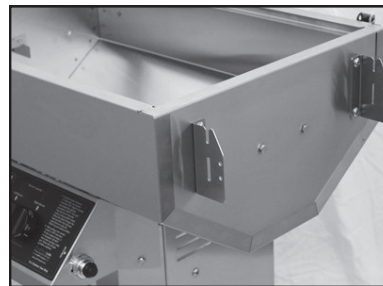

Fig. K-1
- Attach brackets to grill using bolts and kep nuts to each side of your grill as shown in **(Fig. K-1)** Use 2 bolts and kep nuts per bracket.